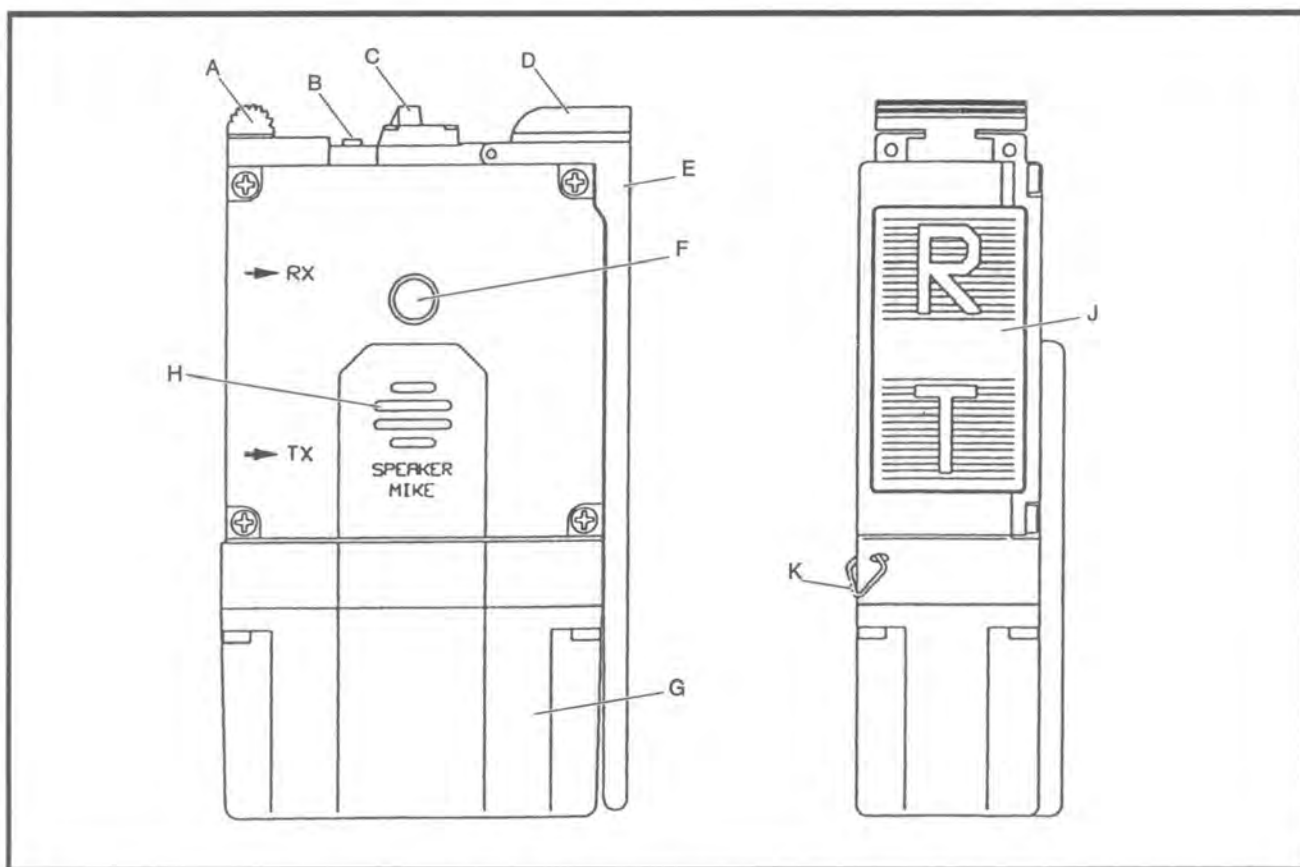

Figure 5-49 MR509 PLB – Controls and Indicators
5.244 The personal locator beacon (PLB) transmits simultaneously (intermittent) in the beacon mode on the 121.5 MHz and 243.0 MHz international emergency frequencies and also alternately on the 406.025 MHz international satellite emergency frequency. In voice communication mode the PLB operates exclusively on 243.0 MHz UHF frequency. Refer Figure 5-49 for the location of controls and indicators and Table 5-16 for their description and functions.